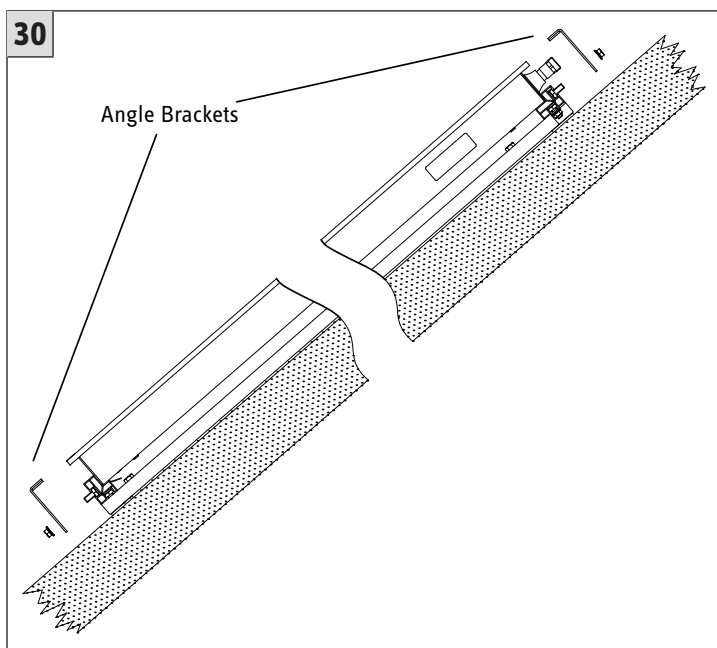

Figure 30: Securing Collectors To Frame Using Angle Brackets.
Secure each collector at the top and bottom with eight (8) angle brackets – four along the top profile frame and four along the bottom – by inserting M10 bolts (from kit 185545 or kit 185546) into the profile rail’s bolt channel, placing the angle brackets into position, and tightening the bolts. See **Figure 30**. (For horizontal mounting systems, secure each collector at the top and bottom with sixteen (16) angle brackets – eight along the top profile frame and eight along the bottom.)